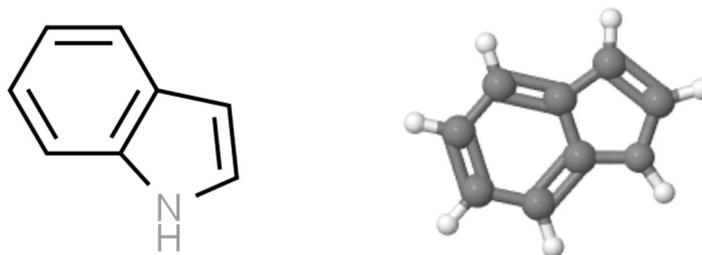

Fig. 3.9. Structure of indole.
- Depending on the concentration, the same substance produces a different smell (for example, indole, C_6H_7N which in low concentrations has a jasmine odor, higher – feces fig. 3.9)